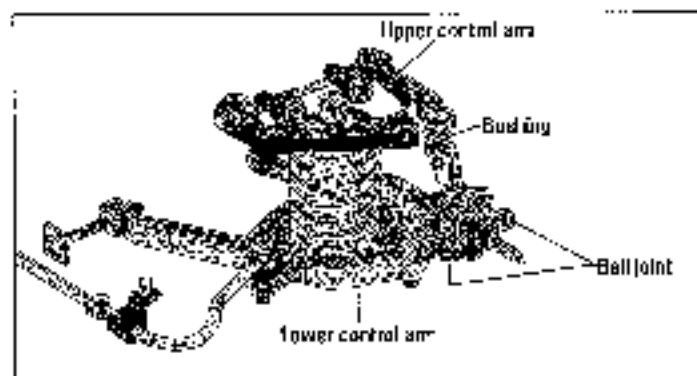

Figure 11-3:
- ✓ **Double-wishbone suspension:** Also known as *short-long arm suspensions*, these systems use a short upper control arm and a longer lower control arm that hold the wheel to the frame. The control arms allow the wheel to move up and down, kind of like a hinge allows a door to swing open and closed. There are rubber bushings at the inboard end of the control arms, and a ball joint at the outboard end of the control arm allows the wheel to rotate and pivot. (See Figure 11-3.)
Control arms are sometimes referred to as *A arms*, *A frames*, *I arms*, or *links* (refer to Figure 11-3). Ever hear the term *multi-link suspension*? That means that more than one link is holding the wheel to the frame or body.